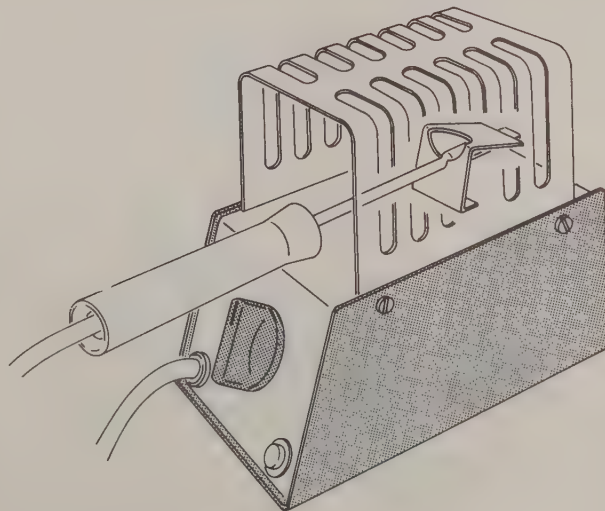

Figure 1
-) Position the iron in the bracket as shown in Figure 1 in the Operation section.
- () Place the soldering iron in its bracket as shown in Figure 1.
Figure 1 shows the position of the Soldering Iron when it is not in use. With the iron in this position, the hot tip rests under the shield, preventing accidental contact.